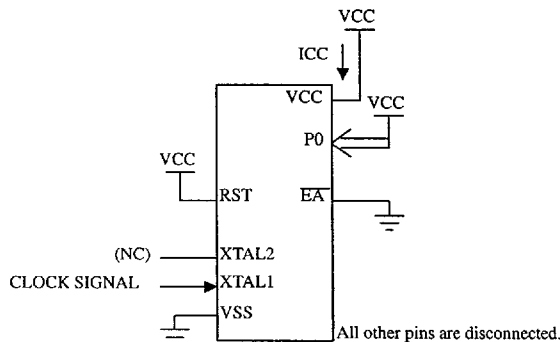
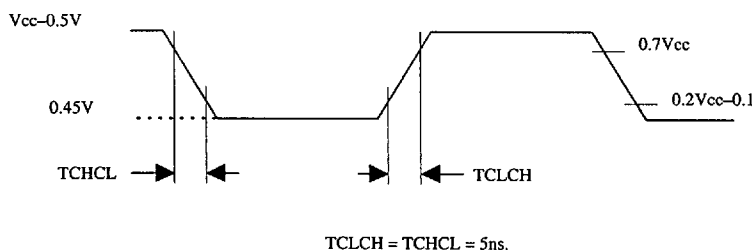

Figure 17. ICC Test Condition, Active Mode.
Figure 20. Clock Signal Waveform for ICC Tests in Active and Idle Modes.
- ICC is measured with all output pins disconnected; XTAL1 driven with TCLCH, TCHCL = 5 ns (see Figure 20.), $V_{IL} = V_{SS} + 0.5\text{V}$, $V_{IH} = V_{CC} - 0.5\text{V}$; XTAL2 N.C.; $\overline{EA} = \text{RST} = \text{Port } 0 = V_{CC}$. ICC would be slightly higher if a crystal oscillator used (see Figure 17.).